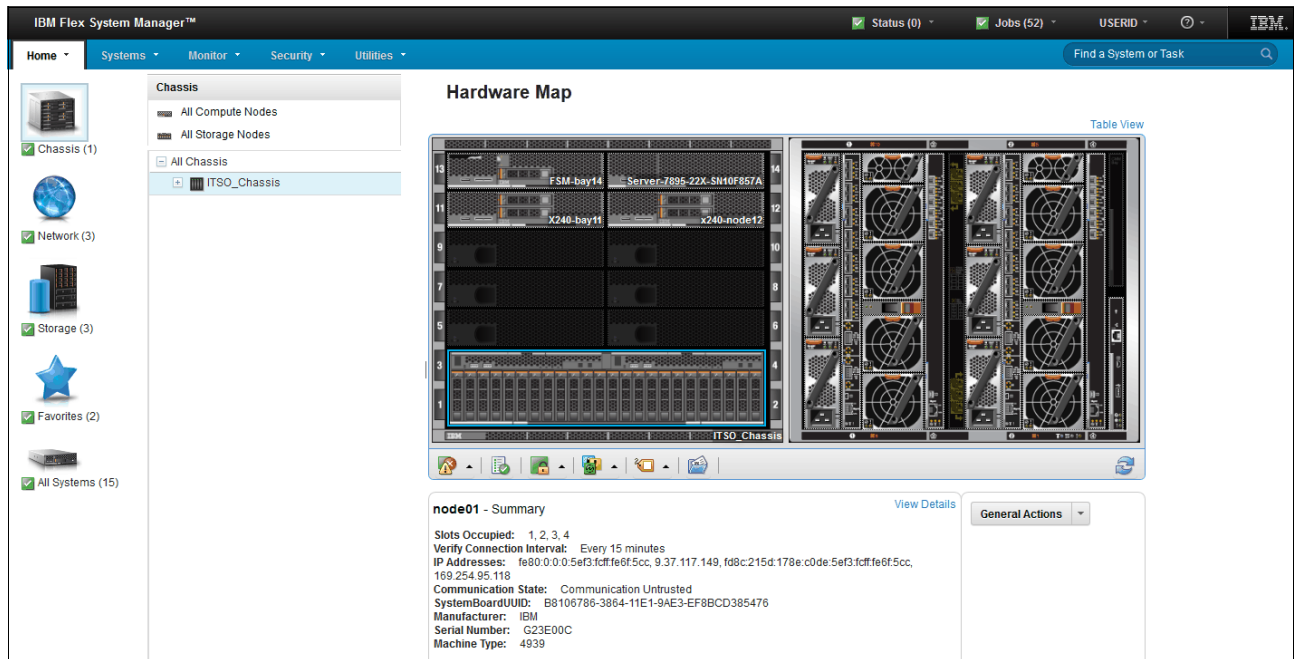

Figure 4-3 IBM Flex System Manager - Hardware Map
2. In the Chassis Manager, select the applicable chassis which will launch the Chassis Map for that chassis, as shown in Figure 4-3 on page 156.